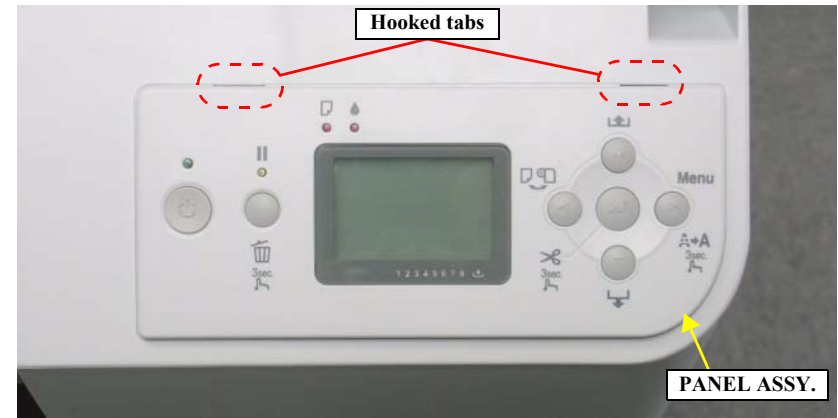

Figure 4-16. Hooked Tabs for Securing the PANEL ASSY.
2. Release the two hooked tabs that secure the PANEL ASSY. from the inner side, and remove the PANEL ASSY. *See Figure 4-16.*